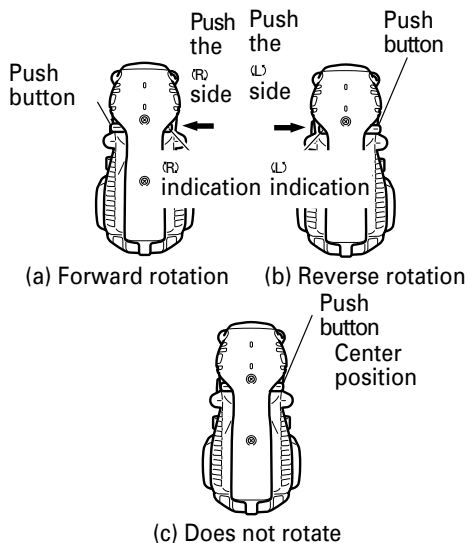

Fig. 11 Diagram seen from the handle side
6. Confirm the direction of bit rotation (Fig. 11)
The bit rotates clockwise (viewed from the rear side) by pushing the R-side of the push button. (Fig. 11-a)
The L-side of the push button is pushed to turn the bit counterclockwise. (Fig. 11-b)
The motor does not rotate if the push button is set to the center position. (Fig. 11-c)